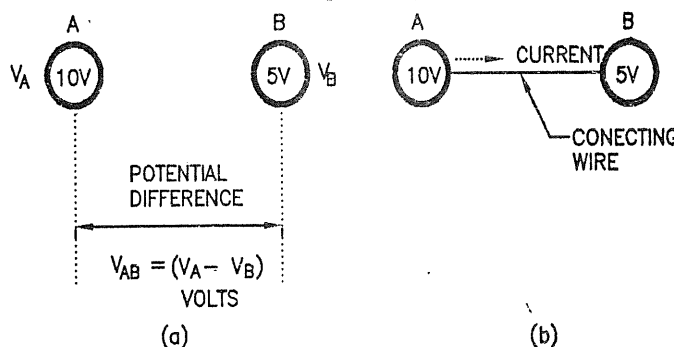

FIG. 1.1 : POTENTIAL AND POTENTIAL DIFFERENCE
- Consider two bodies A and B having potentials 10 volts and 5 volts respectively as shown in Fig. 1.1.